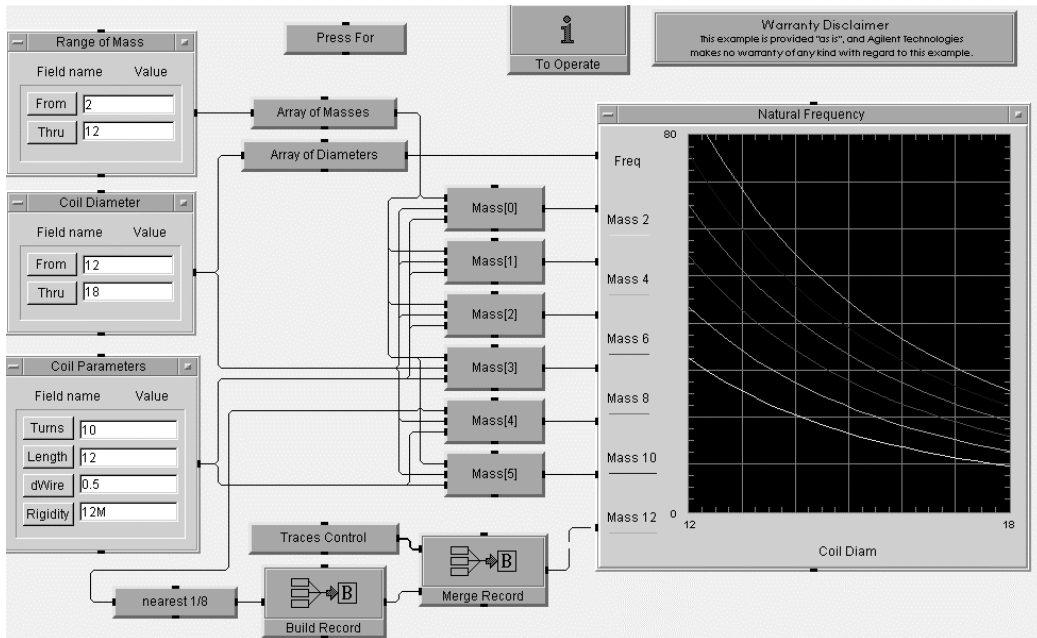

Figure 12.7. Display of coil spring natural frequencies
15. Run this program; it should look like Figure 12.7.